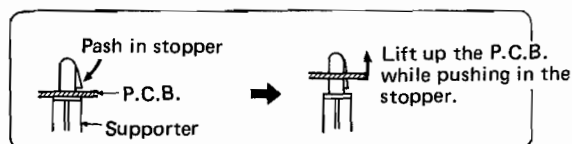

Fig. 4
4. Remove the stopper A (P.C.B. holder) of the FL printed circuit board. (Refer to Fig. 4)
3. Remove stopper A. (See Fig. 4.)